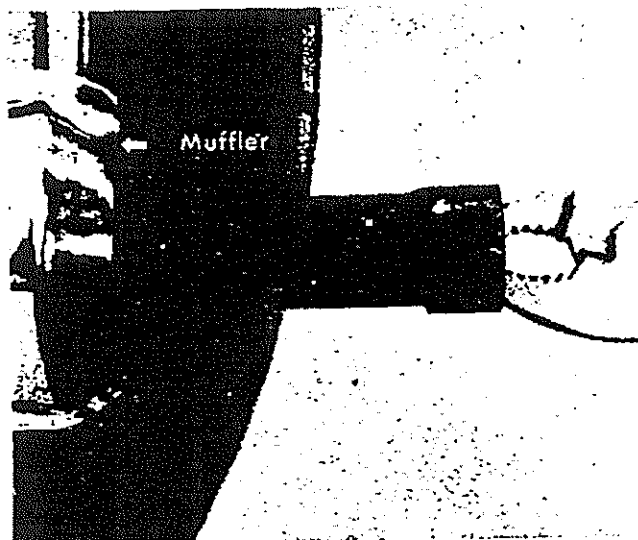

Fig. 36
- a) To decarbonize mufflers, remove lock nut and inner pipes. (Fig. 36)